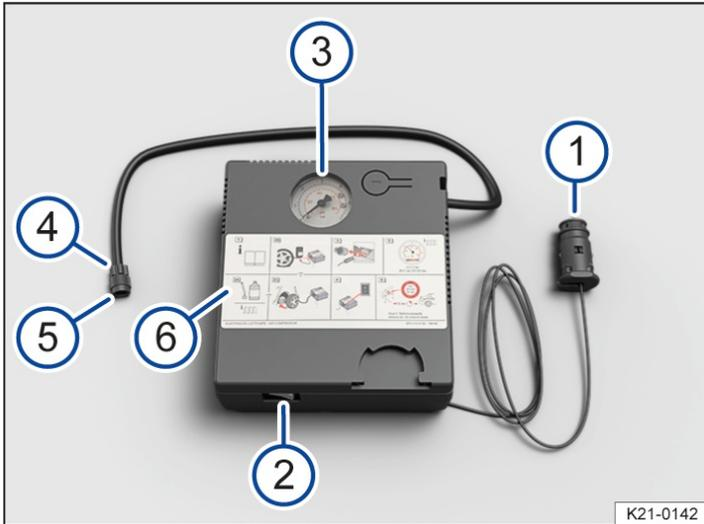

Fig. 2 General example: compressor in the tire mobility set.
1. Screw the tire filler hose → *fig. 2* ⑤ of the air compressor firmly onto the tire valve.
2. Ensure that the air drain plug → *fig. 2* ④ is turned off.
4. Insert the 12-volt plug → *fig. 2* ① into a 12-volt-socket in the vehicle (→ Sockets).
5. Switch the air compressor on with the ON and OFF switch → *fig. 2* ②.
2. Connect the tire filler hose → *fig. 2* 5 again and read the tire pressure off the tire pressure gauge → *fig. 2* 3